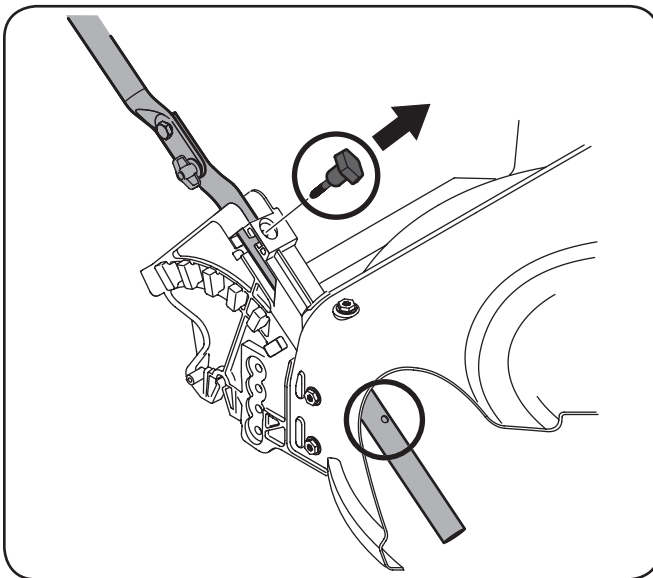
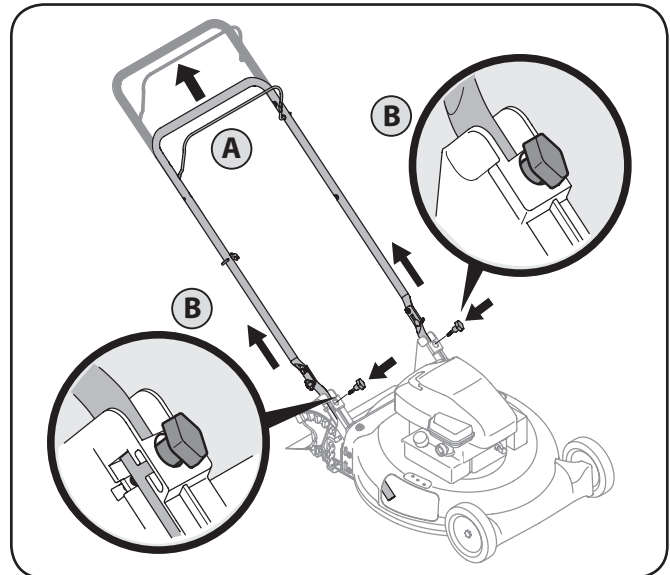

Figure 3-3
Figure 3-4
2. Remove the T-bolts from the handle brackets as shown in Figure 3-3.
- a. Pull upward on the handle 8 inches until holes in lower handle (shown in Figure 3-3 deck cutaway) line up with holes in handle bracket. See Figure 3-4.
- b. Insert the T-bolts removed earlier through the handle brackets and lower handle and tighten securely to secure the handle in place. See Figure 3-4.